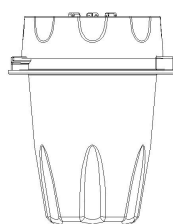

Fig.5
7. Disconnect from power supply once finished. Disassemble the grinder attachment from the unit, keep the grinding bowl downward and turn it anticlockwise (see fig.5), then empty the bowl and serve.